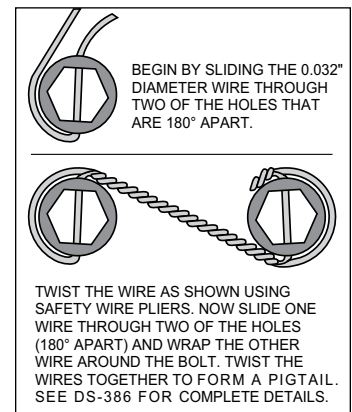

Figure 3.
•Install the grease seal (16) by pressing into the backside of the hub (14).
•With the larger I.D. side of the rotor (17) facing away from the hat (18), bolt rotor (17) to hat (18) through the backside of the rotor using washers (19) and bolts (20). Apply red *Loctite*® 271 to the bolt threads and torque bolts to 155 in-lb using a criss-cross pattern. For an added measure of security, the bolts may be safety wired using standard 0.032 inch diameter stainless steel safety wire as shown in Figure 3. Please refer to Wilwood's data sheet DS-386 (available at www.wilwood.com/Pdf/DataSheets/ds386.pdf) for complete safety wire installation instructions.